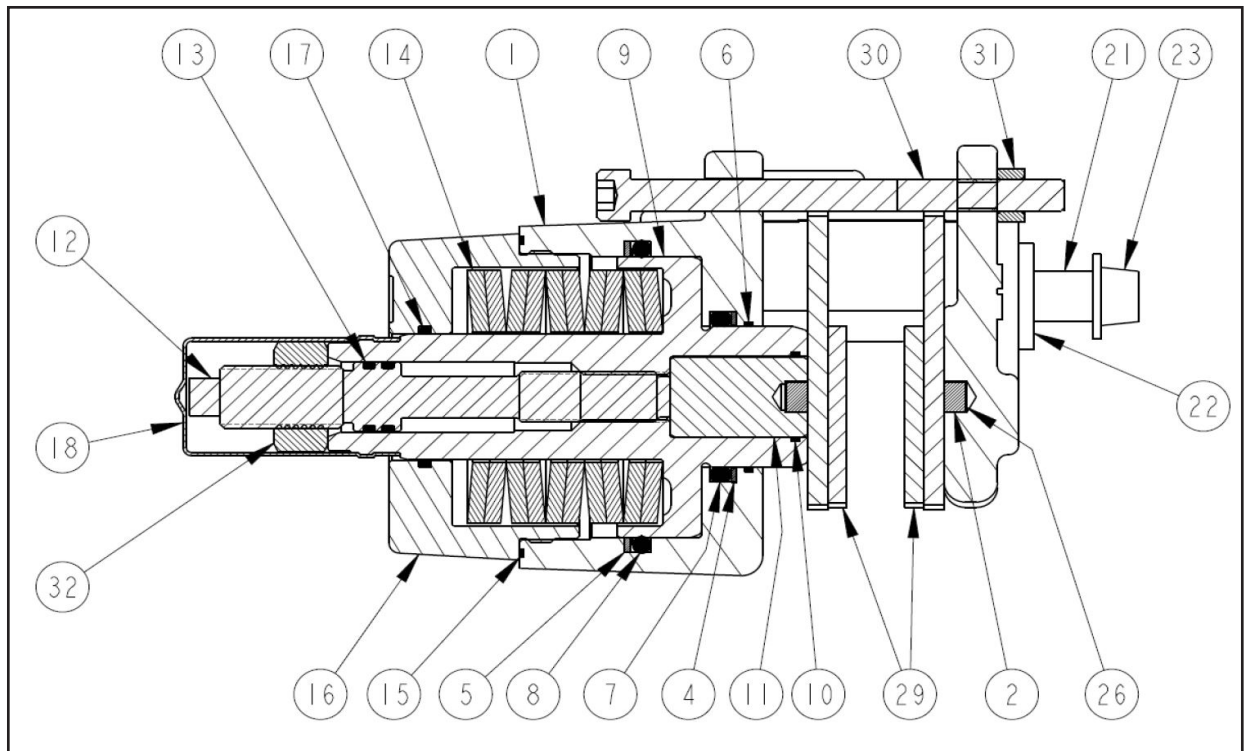

Figure 112
1. Use spanner wrench to remove cap-machined (item 16). The spring disc (item 14) will be accessible when the cap machined (item 16) is removed (Figure 112).
2. Press the piston (item 9 and 11) out of the torque plate machined (item 1) from the lining & carrier assembly (item 29) side.
3. Remove piston assy (item 11) from piston (item 9) by pressing through the threaded hole
3. Apply a thin coat of mineral oil base fluid (suggested product : UCON LB285or hydraulic fluid, to the new seal O-rings (items 3, 6, 7, 8, 10, 15, and 17).
4. Install seal O-ring (item 10) in seal groove of piston (item 9).
5. Slide the piston assy (item 11) into the bore located in the piston (item 9) until it is flush with the bottom of the piston (item 9).
6. Install seal O-ring (item 6) in the small bore of the torque plate, machined SA10 (item 1).
7. Install seal O-ring (item 7) and back-up ring (item 4) in the other groove located in the small bore of the torque plate, machined, SA10 (item 1) in the order shown in (Figure 112).
8. Install seal O-ring (item 8) and back-up (item 5) in the larger groove of torque plate, machined , SA10 (item 1). Install in the order shown in (Figure 112).
9. Install assembled piston & piston assy (item 1 & 11) into torque plate, machined, SA10 (item 1).
10. Inspect all spring discs (item 14) for cracks and if necessary replace them with new set of ten spring discs (item 14). Stack the discs into the piston (item 9) in a alternating cupped face to cupped face (series) orientation per (Figure 112).
11. Install seal O-ring (item 17) into the internal groove on cap-machined (item 16) as shown in (Figure 112).
12. Install seal O-ring (item 15) on the end of the torque plate machined (item 1) as shown in (Figure 112)
13. Thread the cap-machined (item 16) into the torque plate (item 1) until it bottoms out on the front face and torque to 81.3 - 108.5 Nm.
14. Install both seal O-ring (item 13) into the grooves of screw-adjustment (item 12)
15. Thread screw-adjustment (item 12) into piston (item 9) until both O-ring seals are inside the bore of the piston. But not so far that the piston assy (item 11) protrudes out past the nose of piston (item 9)
16. Install cap (item 18) see (Figure 112)